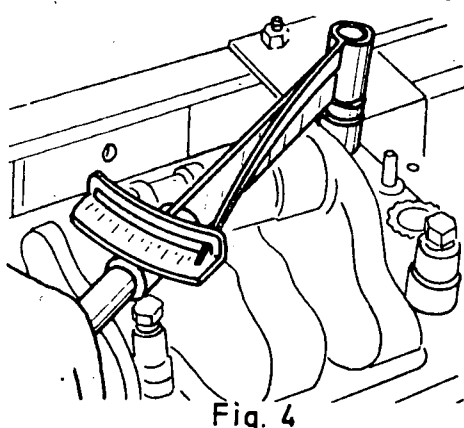

Fig. 4
- c) Install the main bearing caps, making their reference marks coincide; insert the bolts and tighten to the specified torque (fig. 4).